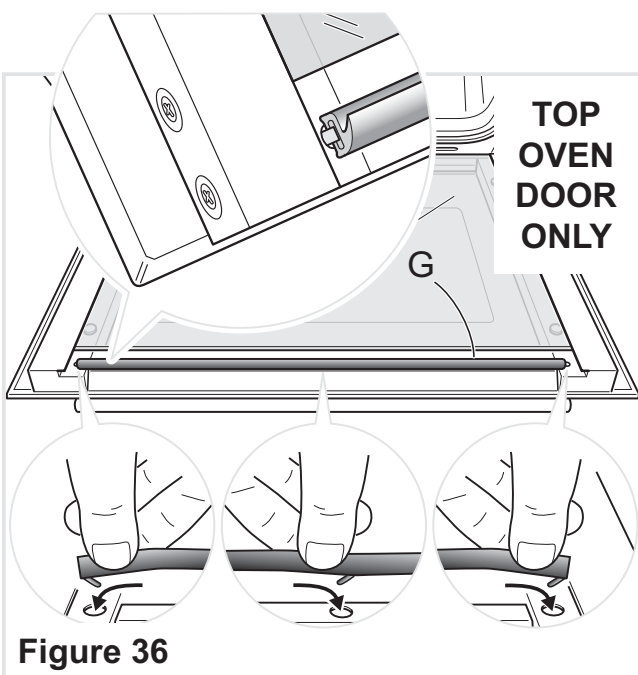

Figure 36
- **Top oven door only:** Reassemble the seal "G" in the correct way by hooking the no. 3 fixing hooks in the proper holes (fig. 36).